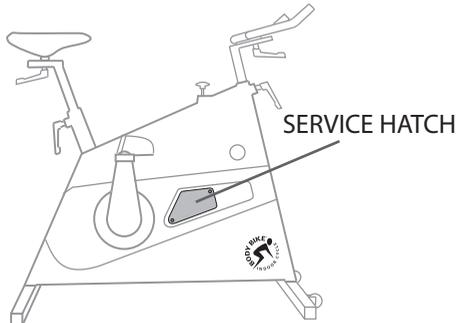

Figure 11
- 1: Remove the service hatch on both sides of the cycle with a screwdriver, see figure 11.